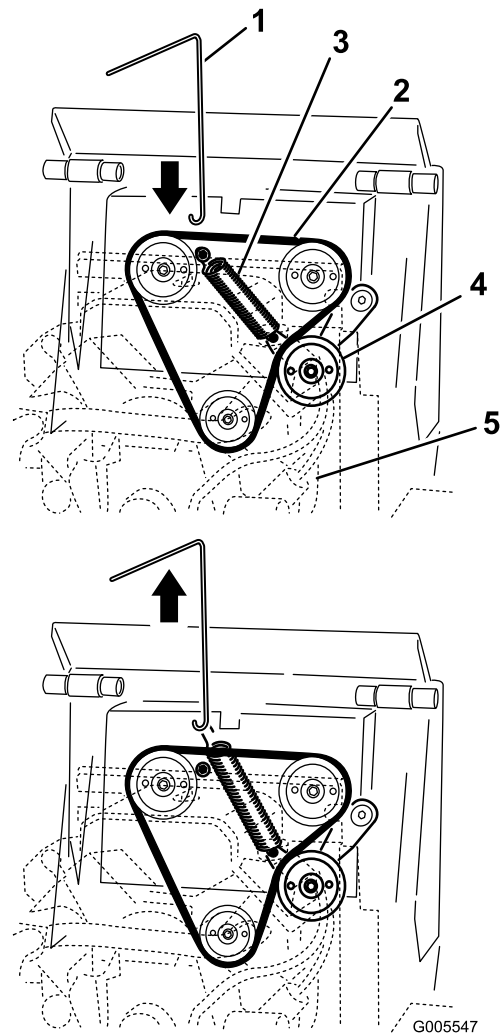

Figure 57
4. Connect the hook on the spring-removal tool to the hook on the idler pulley spring, and disconnect the spring from the stud as shown in Figure 57.